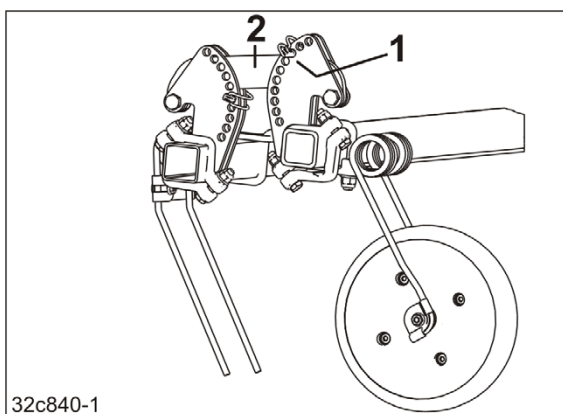

Fig. 140
3. The working depth of the harrow tines is adjusted by repositioning the safety pin for the tube (Fig. 140/1)
- o above the link (Fig. 140/2),
The lower the safety pin for the tube (Fig. 140/1) is inserted in the adjusting segment, the greater the working depth.